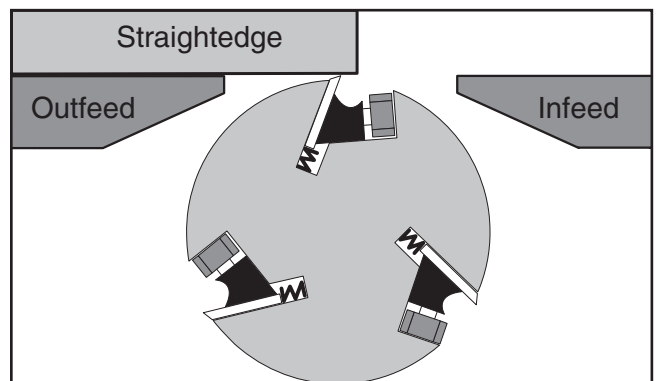

Figure 31. Using a straightedge to align outfeed table height with knife at TDC.
3. Raise or lower the outfeed table until the knife just touches the straightedge (**Figure 31**).